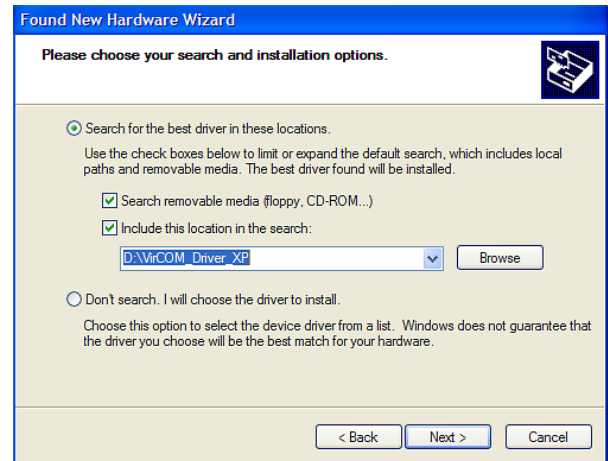

Figure 6. Search for Driver Window
- c. Select **Browse my Computer for Driver Software**. A window similar to that shown in Figure 6 appears.
The following window opens (see Figure 6).